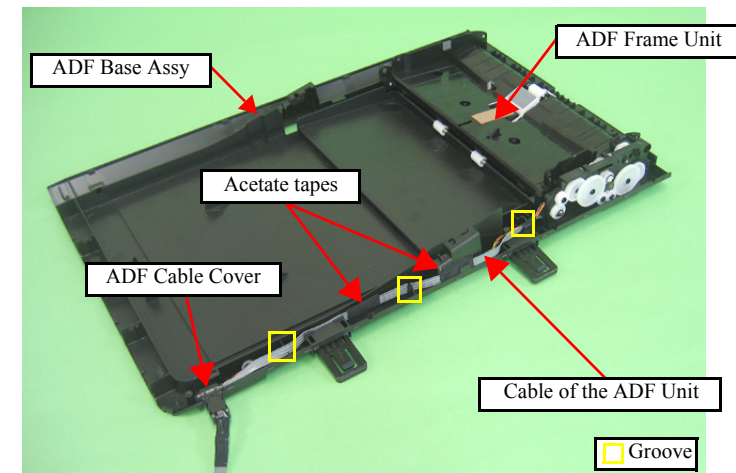

Figure 4-143. Removing the ADF Frame Unit (1)
- Route the ADF Motor cable, ADF Sensor cable, and the grounding wire as follows, referring to Fig. 4-143.